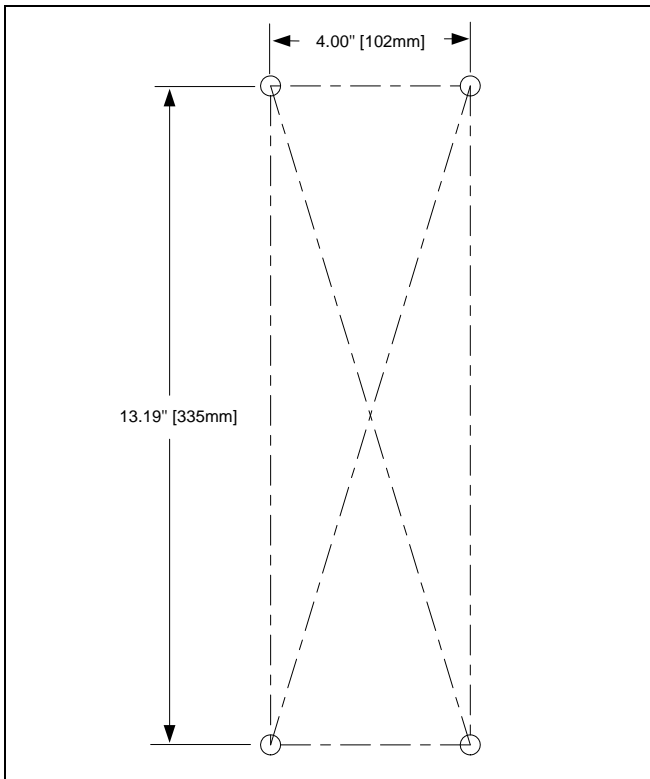
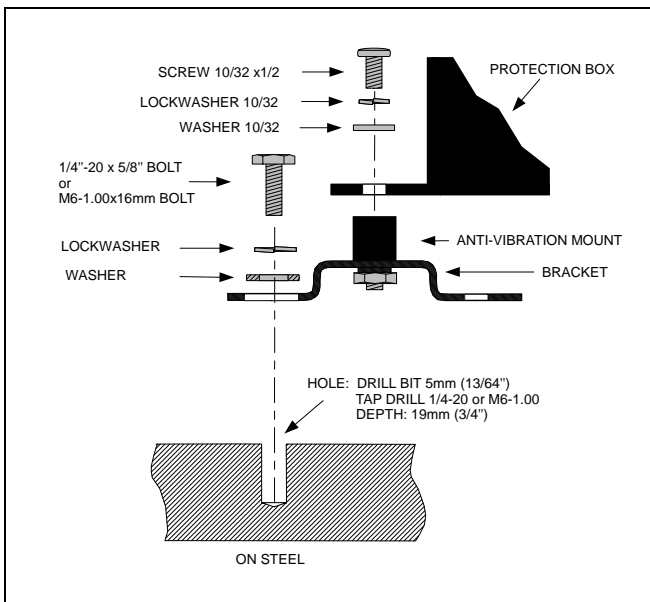
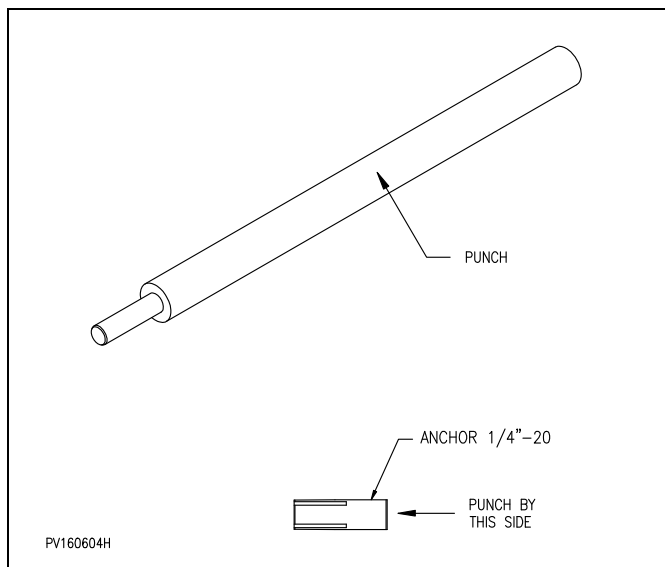

Figure 6 : Mounting holes template
Figure 7 : Fastening the ABS protection box on steel
Figure 9 : Anchor setting punch for concrete anchors
1. Drill (refer to *Figure 6 : "Mounting holes template"*) and thread into the structure (refer to *Figure 7 : "Fastening the ABS protection box on steel"*).
1. Drill into the concrete wall (refer to *Figure 6 : "Mounting holes template"*) and drive the anchor bolts with the special punch (*Figure 9 : "Anchor setting punch for concrete anchors"*).